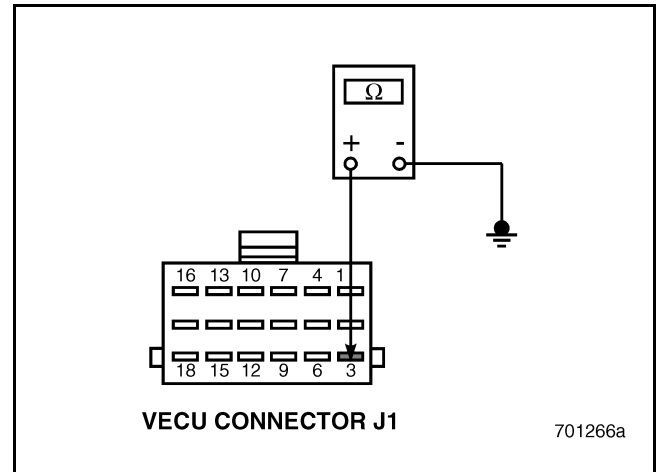

Figure 515
4. Check for continuity between VECU connector J1 pin 3 and a good ground (see Figure 515).